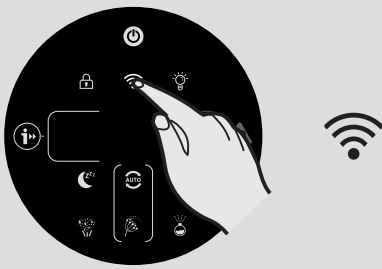

Рис. 7
6. Press and hold the Wi-Fi button on the display for 5 seconds, there will an audible beep and the Wi-Fi button will start flashing to indicate it is waiting for a connection. [Рис. 7]